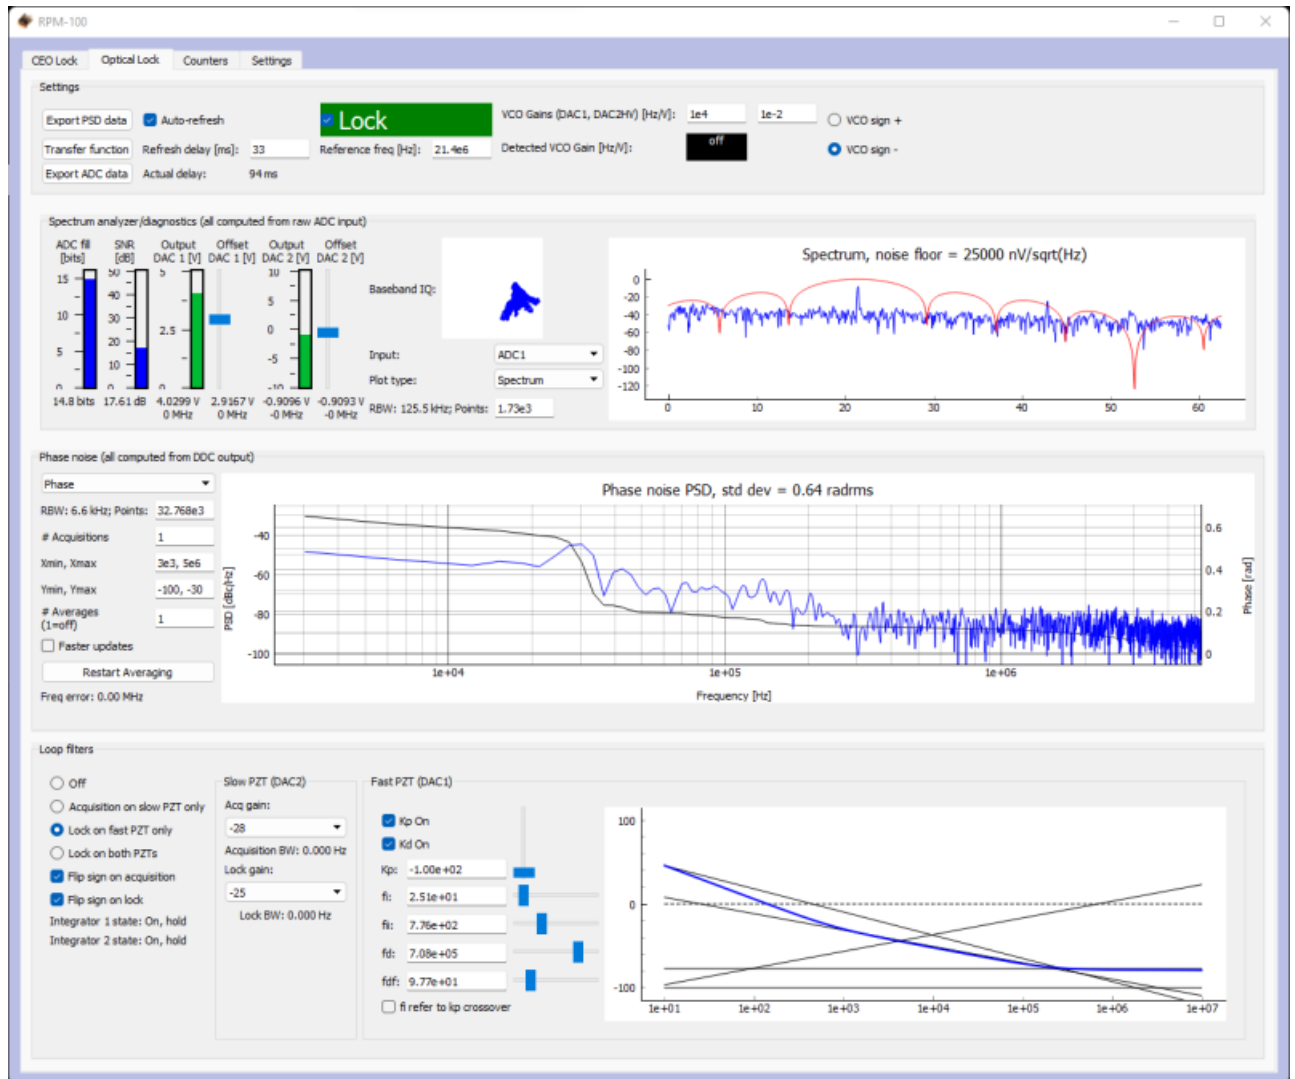

Fig. 12: Locking f_{opt}
- Press the "Lock" button (figure 12). If f_{opt} doesn't lock, change the VCO sign to the opposite polarity and try again. If the system continues to not lock, lower the K_p value.
- Adjust PID settings (bottom middle of figure 12) accordingly to lower the integrated phase noise of each parameter (f_{CEO} and f_{opt}). The default settings provided in the software are a good place to start but tweaking the values can often improve performance.